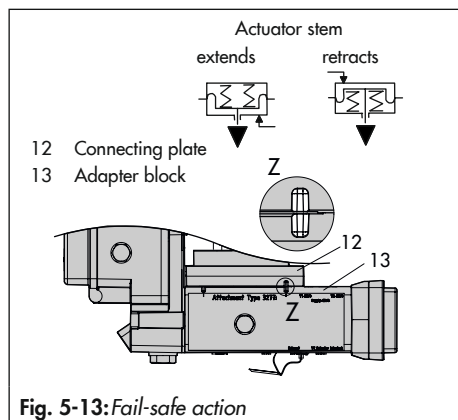

Fig. 5-13: Fail-safe action
8. Insert the screws (13.1) through the middle holes of the adapter block (13).
9. Place the connecting plate (12) together with the seal (12.1) onto the screws (13.1) corresponding to the fail-safe action "actuator stem extends" or "actuator stem retracts". The fail-safe action that applies is determined by aligning the groove of the adapter block (13) with the groove of the connecting plate (12) (Fig. 5-13).